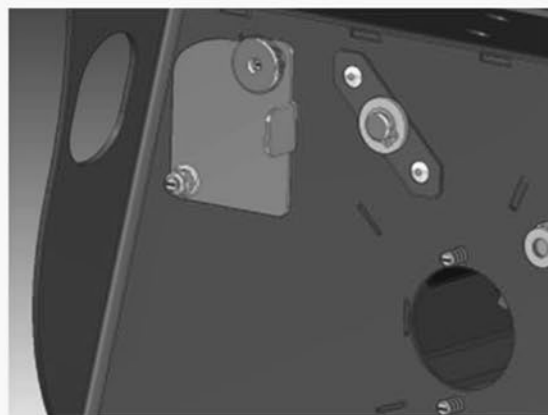
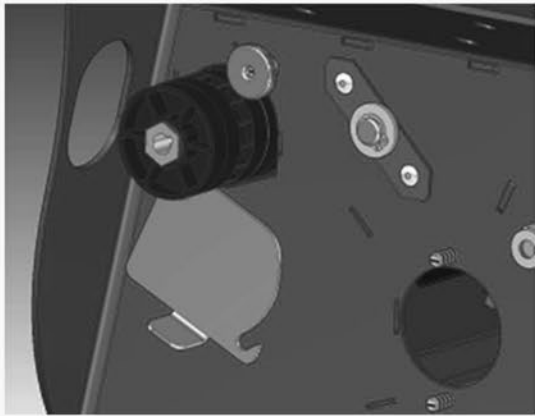

Figure 27
Figure 28
- The second seeding shaft is stowed in the seeding shaft holder. Here, the knurled nuts must be loosened, then the cover can be swivelled away and the second seeding shaft can be taken out (Figure 27 and Figure 28).